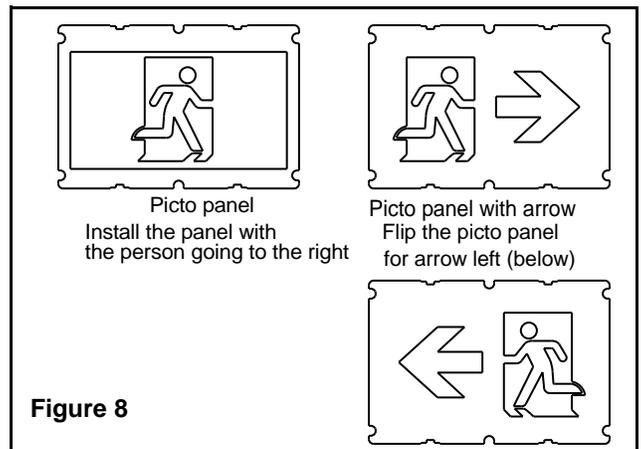

Figure 8
5. Select the desired picto panel and install it with the opal diffuser behind. The picto panel without arrow shall be installed facing right (see Figure 8).